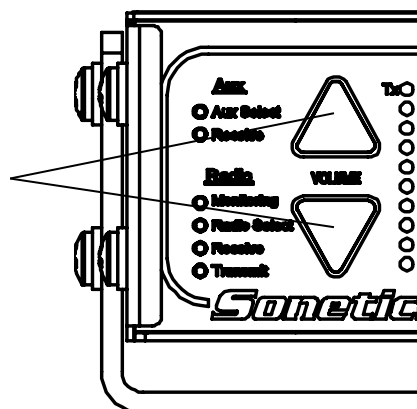

FIGURE 14
Using the Up and Down Buttons, adjust the Volume Control (Figure 14) to the middle of its range.
1. To enter **Device Gain Adjust Mode**, simultaneously press and hold Volume up and Volume down buttons for 5 seconds. (FIGURE 14)